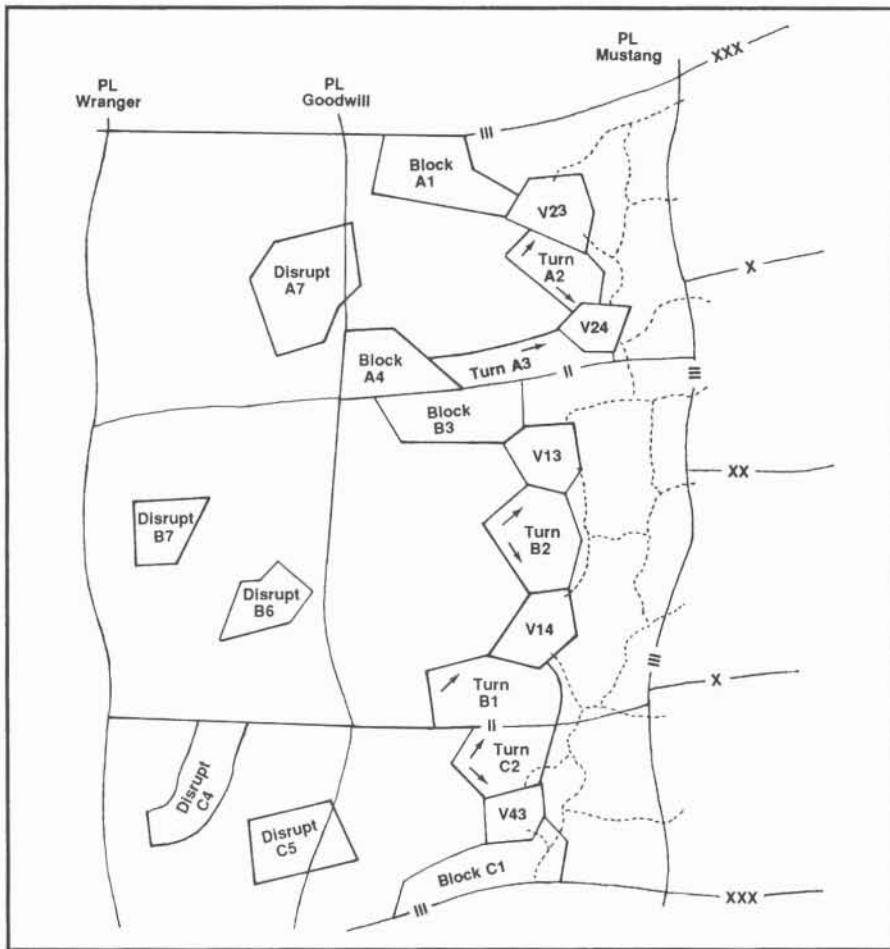

Figure 1
Well, here in the hinterlands of the Fulda Gap, we think we have a better, simpler way to keep us engineers well integrated. This article explains the thought behind the process, and why we think it ought to be the next improvement in FM 5-100. The two overlays (Figures 1 and 2) allow you to immediately see what the scheme of maneuver is, and where obstacles will go and why.
What we do is best seen in some examples. Look at the first overlay (Figure 1 on page 6). Suppose the 11th ACR mission is to be a covering force forward of phase line (PL) Mustang. The covering force area is designated by corps as an obstacle zone. The commander's concept is to: